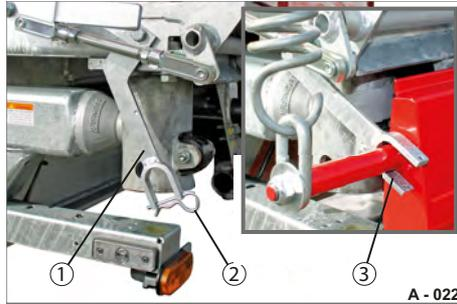

Fig. 24 Platform gate door stay
- ▶ Remove the spring pin (Fig. 24/1) from the fork head (Fig. 24/3).
- ▶ Swing the door stay (Fig. 24/2) out to the side.